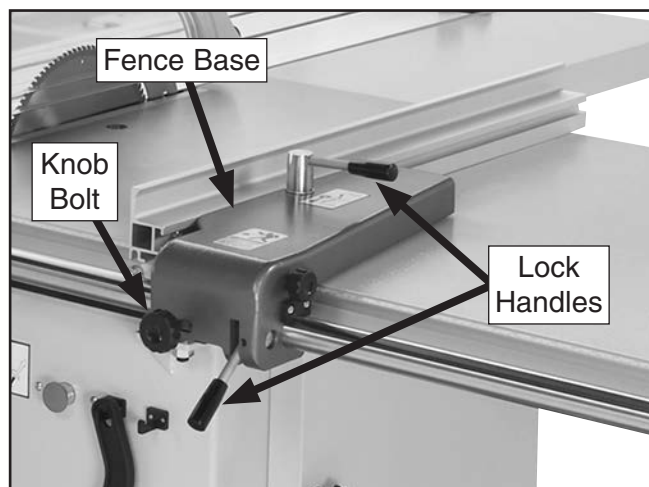

Figure 34. Rip fence attached with lock handles and lock knob installed.
20. Slide rip fence base onto fence rail as shown in **Figure 34**.
21. Thread (2) M10-1.5 x 12 lock handles and M10-1.5 x 70 lock knob bolt into rip fence base, as shown in **Figure 34**.